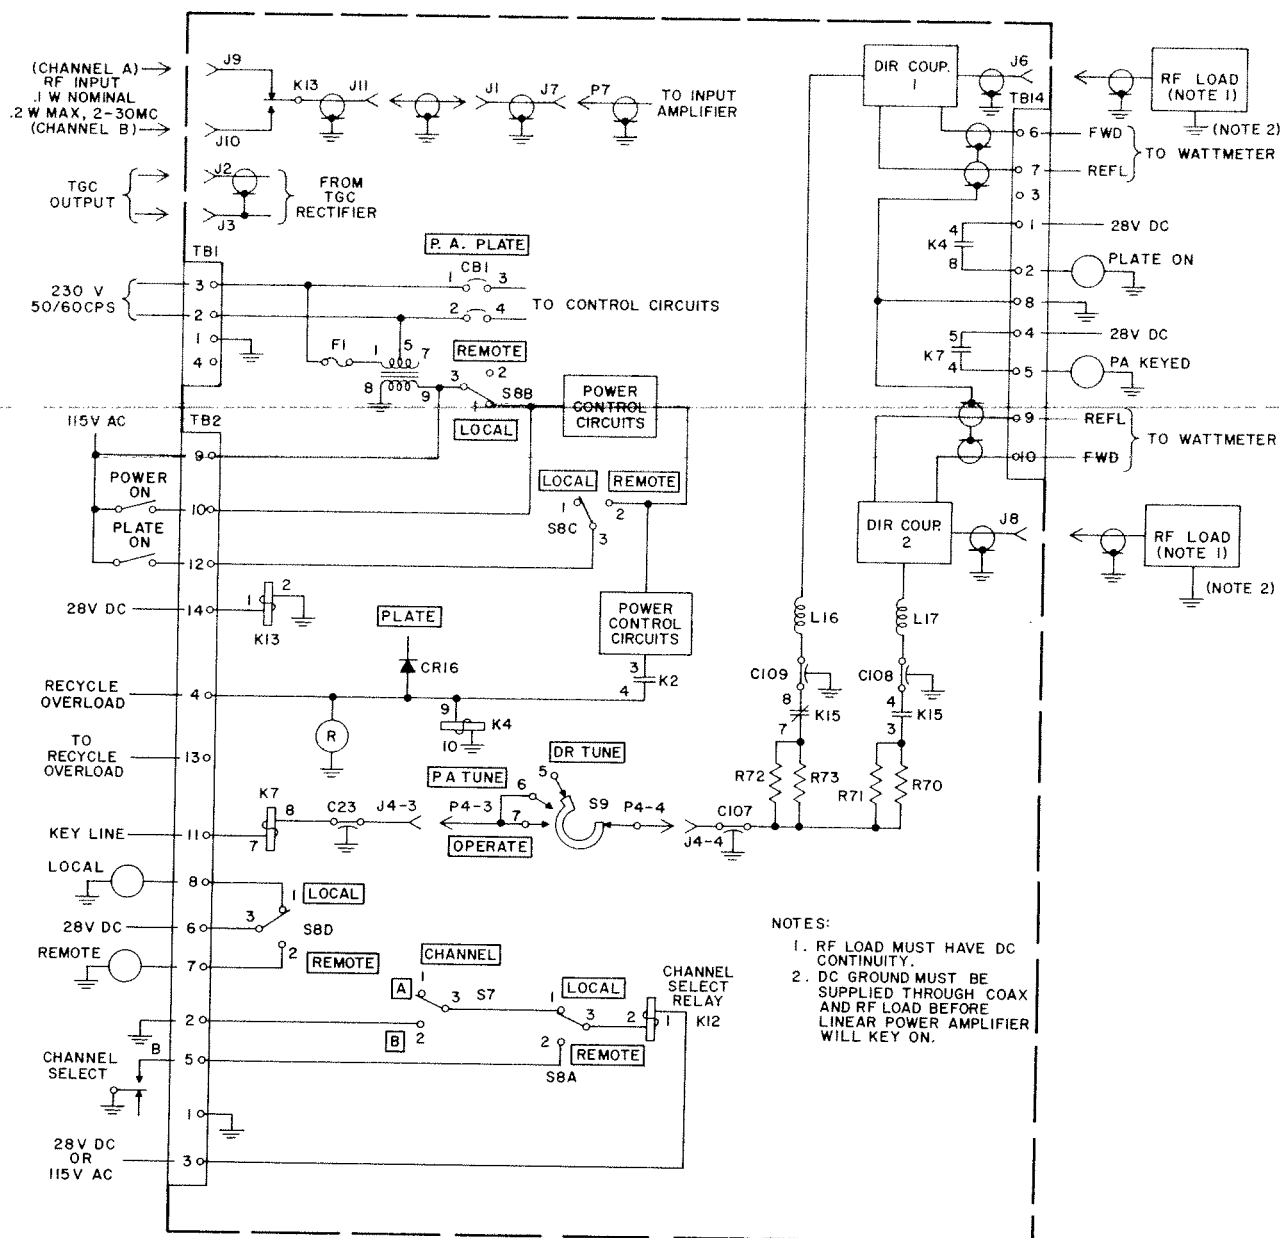

Figure 2-3. Linear Power Amplifier 204F-1, External Circuit Connections with Dual Input-Output Status
(2) For the dual-input option, prepare two lengths of RG-58C/U coaxial cable which will reach from the exciter to the linear power amplifier. Run the cables through the one-inch conduit. Terminate the linear power amplifier ends of the coaxial cables with type UG-88C/U connectors. Connect the r-f connectors to receptacles J9 and J10 (see figure 2-3) of the linear power amplifier. Terminate the exciter end of the cables with the type of connectors that will mate with the signal output receptacles on the exciter. Connect the cables that mate with J9 and J10 to the signal output of the exciter.
(2) For the dual-output option, two lengths of RG-17/U coaxial cable must be prepared to reach from the linear power amplifier to the antenna receptacle. Terminate the linear power amplifier end of the cables with type UG-154/U connectors. Attach these r-f connectors to receptacles J6 and J8 of the linear power amplifier (see figure 2-3). For a description of the dual-input, dual-output option, see paragraph 4.8.2.